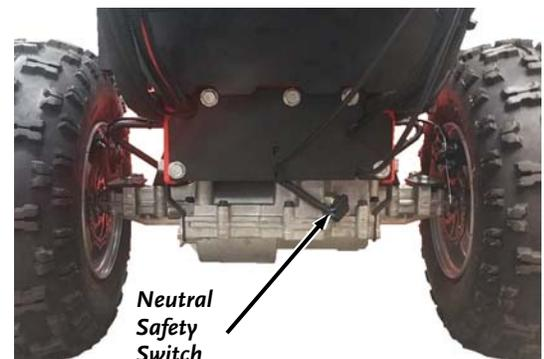

Figure 16
2. Check that the Neutral Safety Switch at the rear of the Transaxle is connected in case it has loosened during shipping (**Figure 16**).